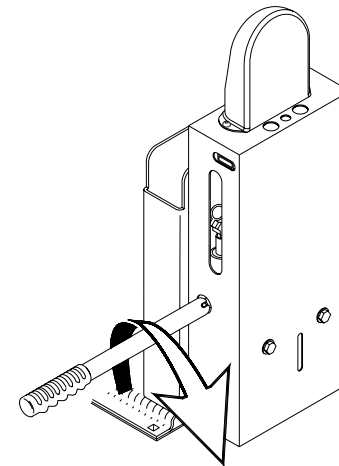

FIGURE 2-13: CLOSE RELEASE VALVE
- d. Refer to **Figure 2-13**. When platform reaches level of interior floor turn valve clockwise to close; do not over-tighten valve. Do not lower platform below vehicle floor level. The rear edge of bridgeplate must rest flat on vehicle floor.
- b. Hold valve open until platform settles at ground level. Refer to **Figure 2-13**. Turn handle clockwise to close valve; do not over-tighten valve.